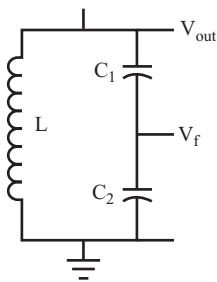

FIGURE 9.12
**15** The output voltage appears at one end of the parallel LC circuit shown in Figure 9.12, and the other end is effectively at ground. The feedback voltage  $V_f$  is taken between the junction of the two capacitors.